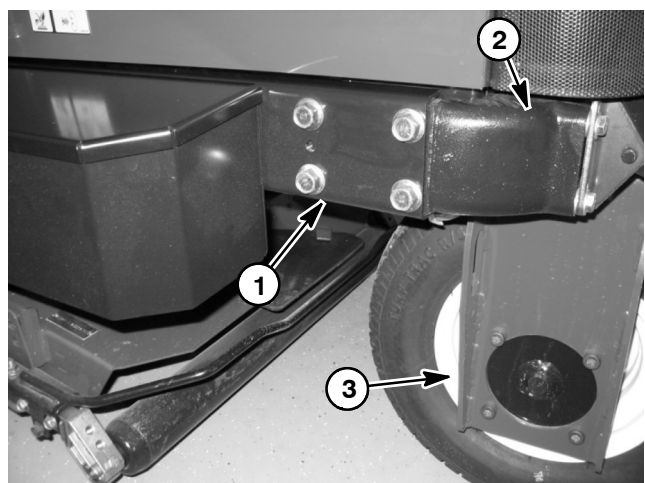

Figure 3
- C. Use jack stands or hardwood blocks under the frame to support the machine (Fig. 3).
- B. Place jack securely under the rear casting as close to the fork as possible (Fig. 3). Jack rear tire off the ground.